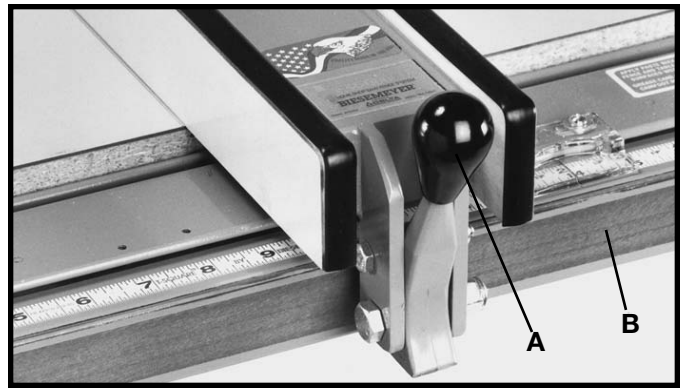
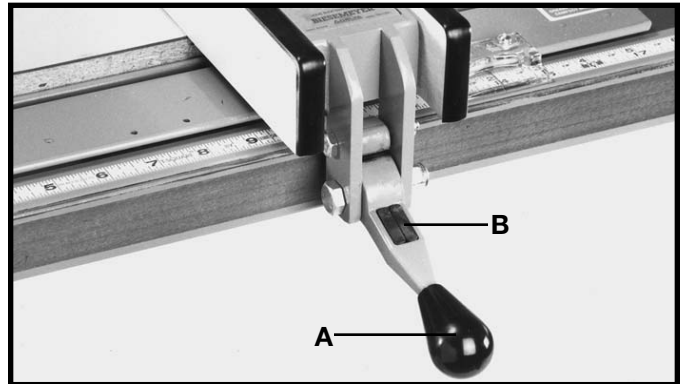

Fig. 112
Fig. 113
1. To place the fence on the guide rail, lift up clamp (A) Fig. 112, and place the fence over the rail and gently push fence onto rail (B) Fig. 112.
2. To move the fence along the guide rail, lift up clamp lever (A) as shown in Fig. 112, slide fence to desired position on rail, and push down on clamp lever (A) as shown in Fig. 113, to lock fence in position. **NOTE:** A magnet (B) Fig. 113, is provided to hold clamp handle (A) in the up position when moving the fence.